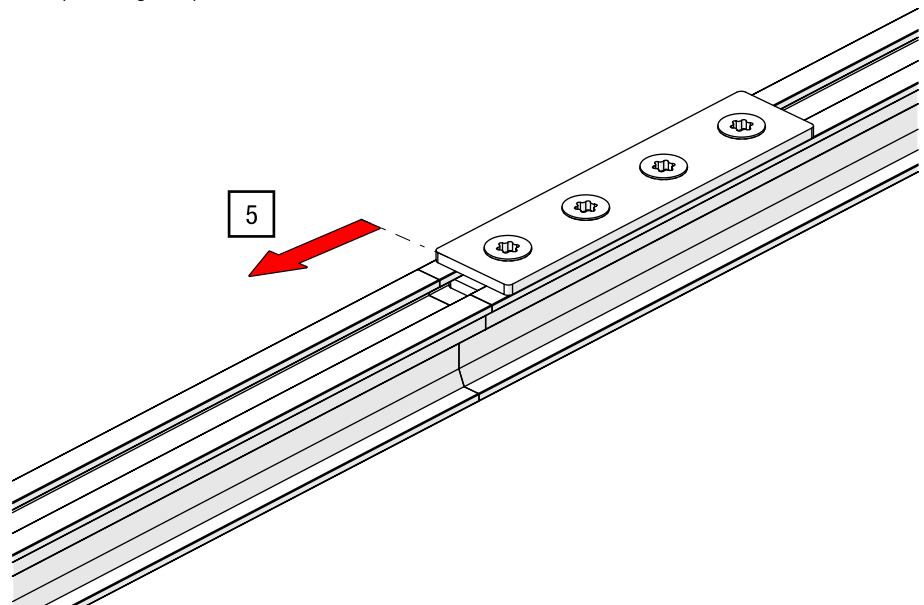

Fig. 46: Track splice – Position in the centre
5. Move the track splice to the centre of the connected track parts (see Fig. 46).